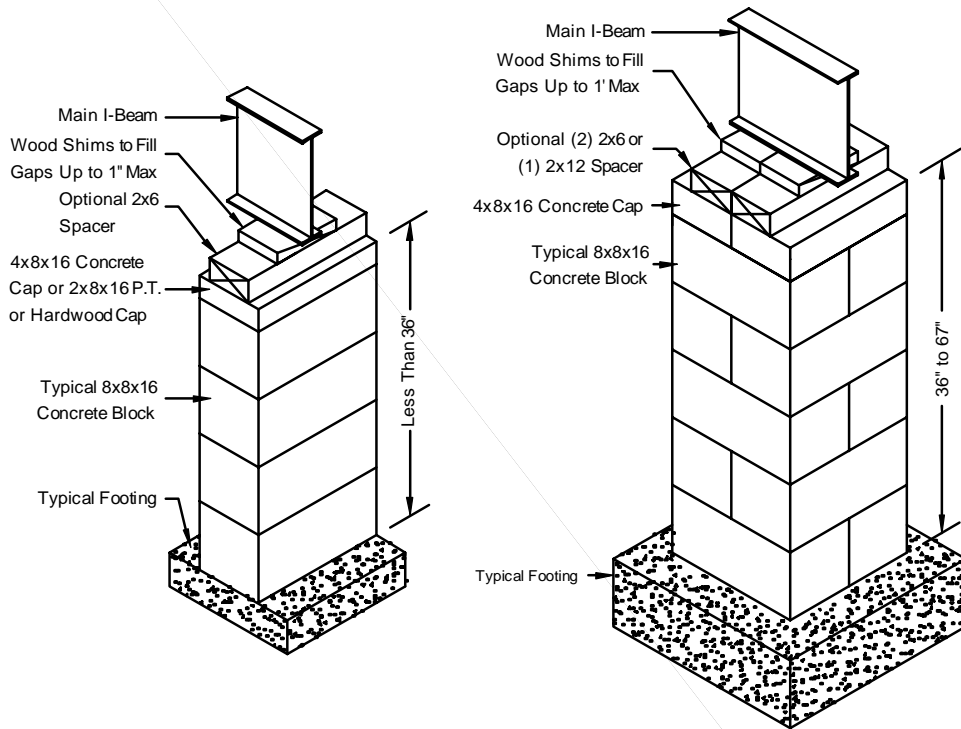

Figure 21. Frame pier construction
- 2. Stack blocks.** Stack concrete blocks with their hollow cells aligned vertically. When piers are constructed of blocks stacked side-by-side, orient each layer at right angles to the previous one (**Figure 21**) and plan blocks so that split caps will be perpendicular to the blocks they rest on and to the I-beam.